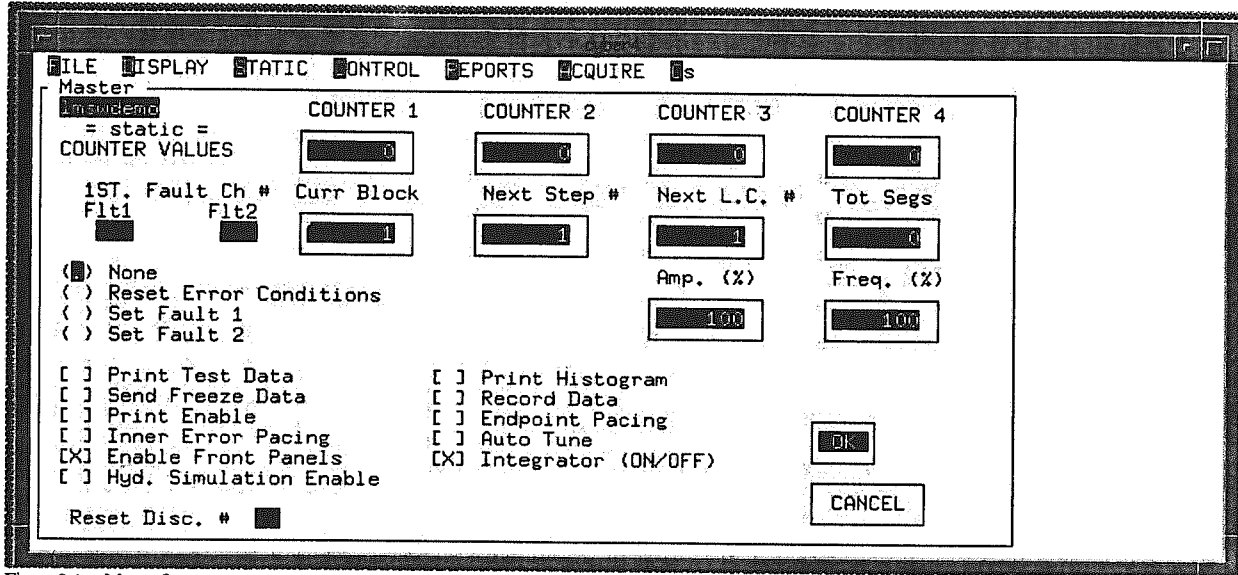

Figure 9-1. Master Screen
- Step 1:** Select **MASTER** from the **CONTROL** menu. The Master screen shown in **Figure 9-1** is displayed.